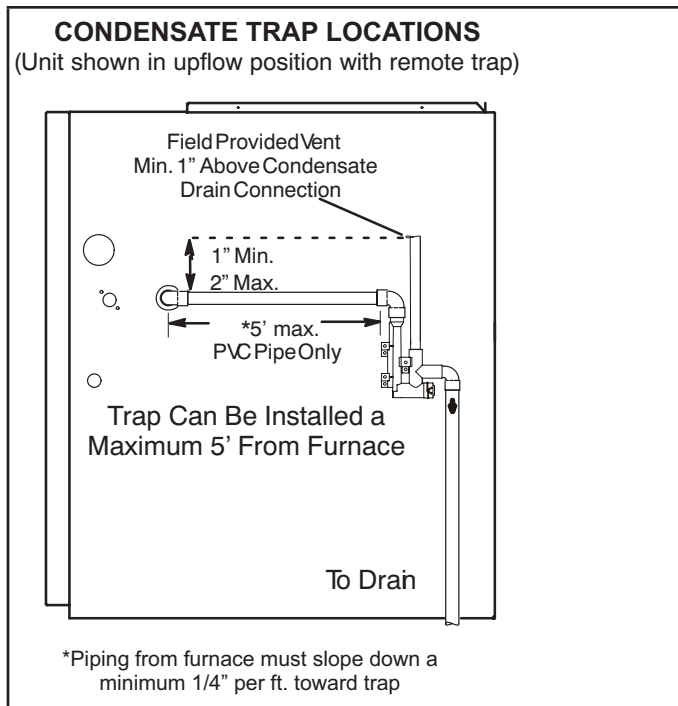

**FIGURE 34**
**NOTE** - Appropriately sized tubing and barbed fitting may be used for condensate drain. Attach to the drain on the trap using a hose clamp. See figure 34.